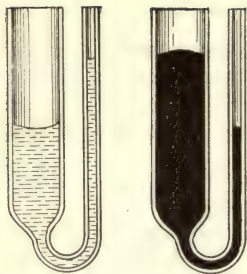

FIG. 76. — Capillarity in small tubes.
81. Capillarity. Suppose we have two U-tubes (Fig. 76) with their side tubes 30 mm. and 1 mm. in diameter. If we pour water colored with ink into the first tube, and mercury into the second tube. we observe